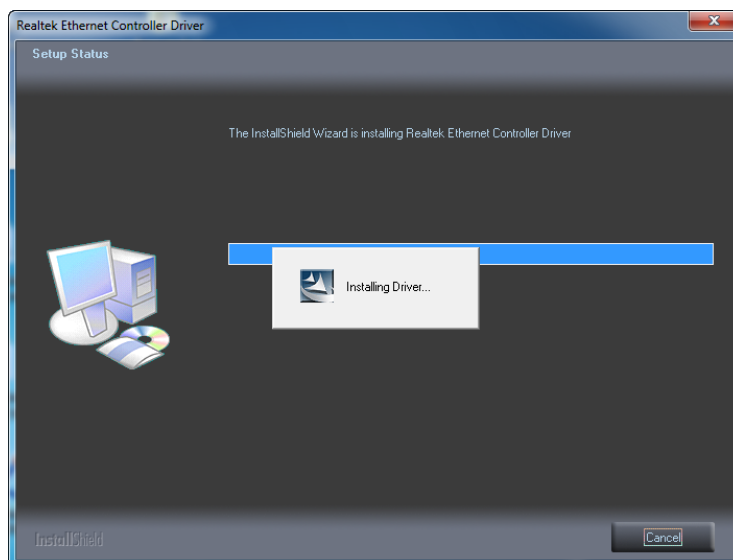

Figure 5-28: LAN Driver Setup Status Screen
Step 9: The **Setup Status** screen in **Figure 5-28** appears.